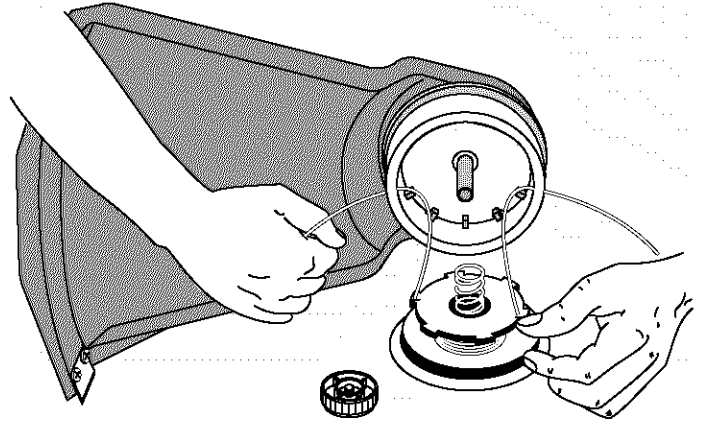

Fig. 17
9. Place the spring in the inner reel. Insert the ends of the line through the eyelets in the outer spool and place inner reel inside the outer spool (Fig. 17). Push the inner reel and outer spool together. While holding the inner reel and outer spool, grasp the ends and pull firmly to release the line from the holding slots in the spool.
5. Insert the ends of the line through the eyelets in the outer spool (Fig. 17).